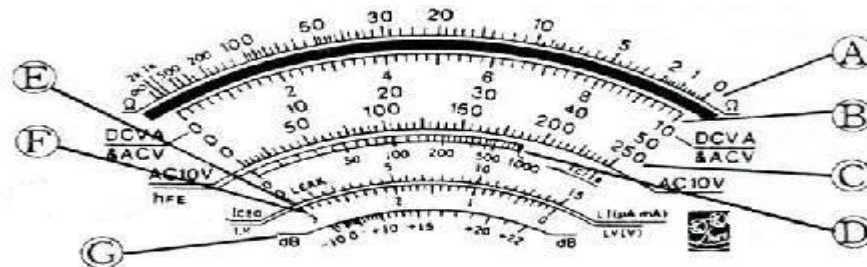

Figure 2.6: Analogue Multimeter Reading Scale (Source: YX-360 Owner's Manual)
5. For analogue multimeters, the reading should be taken on the DCV A scale (Figure 2.6) and then converted using the reference table in Table 2.1, while the digital type will display the value in digits as explained earlier.